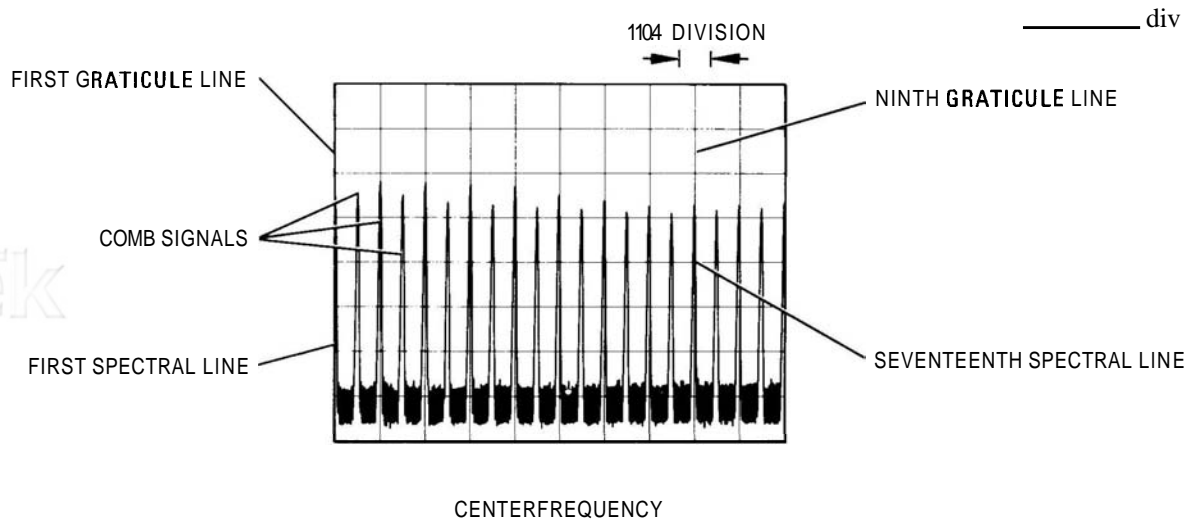

FIGURE 4-2. FREQUENCY SPAN ACCURACY MEASUREMENT FOR SEVENTEENTH SPECTRAL LINE
3. Adjust spectrum analyzer TUNING control to position one spectral line (from comb generator) at first graticule line (left-hand edge of display). Measure the error between 17th spectral line and 9th graticule line as shown in Figure 4-2. Error should be no greater than  $\pm 0.4$  division.